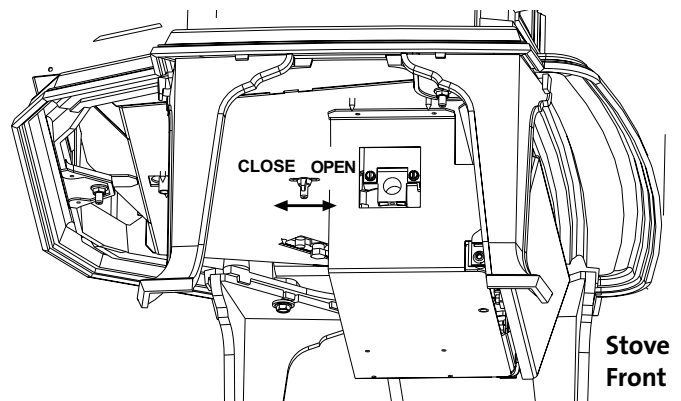

Figure 20. Loosen and adjust the air shutter.
6. Reach under the stove and loosen the Air Shutter wing-nut. Push the shutter stem back to ease burner removal. See fig. 20.
16. **Adjust the Air Shutter.** You will need to position the shutter to provide a gas/air mixture that will achieve the best flame picture with your particular installation. Start with the shutter stem at the half-way position in the slot in the bottom of the stove. See fig. 20. Pushing the stem back will restrict air, while pushing it forward will open the shutter and increase air. With some experimentation, you will find the shutter position that works best for your installation.